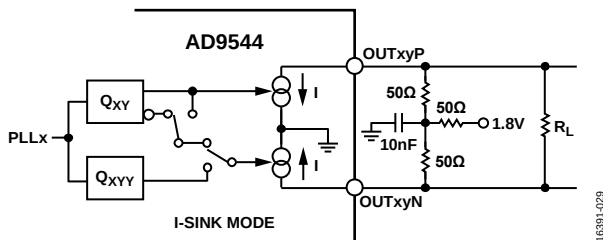
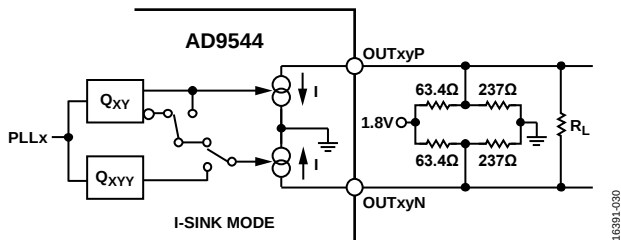

Figure 34. LVDS-Compatible Output, 1.24 V Common-Mode, T Network ($I = 7.5$ mA; $I = 15$ mA With Extra 100 Ω Termination, R_L)
Figure 35. LVDS-Compatible Output, 1.2 V Common-Mode, Thevenin Bias Network ($I = 7.5$ mA; 15 mA With Extra 100 Ω Termination, R_L)
- The 15 mA mode produces a voltage swing and is compatible with LVPECL. If LVPECL dc signal levels are required, the designer must ac couple and rebias the AD9544 output. The 15 mA mode can also be used with the termination scheme shown in Figure 34 and Figure 35 to produce an LVDS signal with the correct LVDS dc bias.